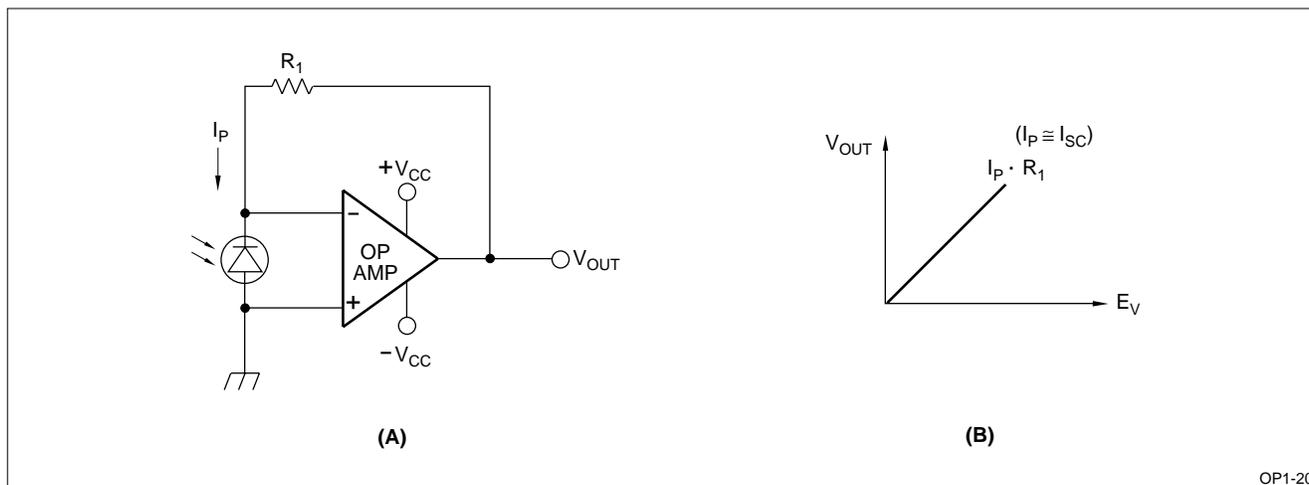

Figure 6. Photocurrent Amplifier using an Operational Amplifier (Without Bias)
Figure 6 shows a photocurrent-voltage conversion circuit using an operational amplifier. The output voltage ( $V_{OUT}$ ) is given as  $V_{OUT} = I_F \times R_1$  ( $I_P \cong I_{SC}$ ). The arrangement utilizes the characteristics of an operational amplifier with two input terminals at about zero voltage to operate the photodiode without bias. The circuit provides an ideal short-circuit current ( $I_{SC}$ ) in a wide operating range.
Figure 6 (B) shows the output voltage vs. radiant intensity characteristics. An arrangement with no bias and high impedance loading to the photodiode provides the following features: